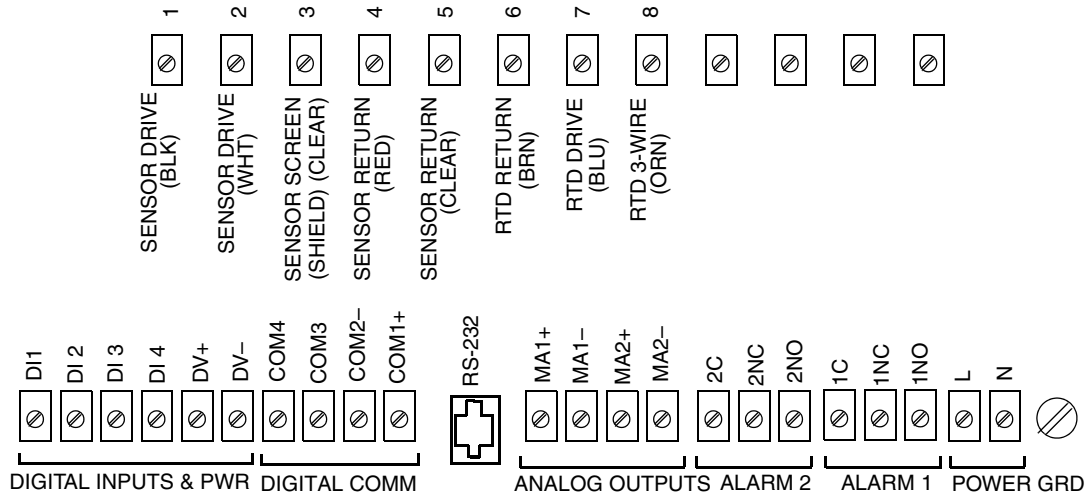

Figure 7. Wiring Connections for 875EC Analyzer
If you have a panel-mounted analyzer, make your wiring connections directly to the terminals on the rear of the housing. Terminal identification is shown in Figure 7 and described in Table 4.
3. Bring the wires from your input (ac) power in the right opening and connect to terminals at the right end of the bottom terminal strip as shown in Figure 7 and described in Table 4.
4. Bring all other wiring (except sensor cable) in the middle opening and connect to appropriate terminals on the bottom terminal strip as shown in Figure 7 and described in Table 4.
5. Bring the sensor cable in the left opening and connect to the appropriate terminals on the top terminal strip as shown in Figure 7 and described in Table 4. If you are using manual temperature compensation and are **not** wiring a temperature measuring device, short terminals 6, 7, and 8 to minimize noise.
The ground connection on panel mounted analyzers is located as shown in Figure 7. The connection on field mounted analyzers is on a case boss just below the power connections.
If HART Communication (Option -C) is installed, connect your HART loop to the COM1(+) and COM2(-) terminals of the analyzer. See Figure 7. Therefore, if you are configuring the analyzer on the bench (no loop load) with a HART communicator, you must add a 250 Ω resistor.
There are two analog (4 to 20 mA) outputs in the analyzer. Connect the Analog 1 output at the MA1+ and MA1- terminals of the analyzer. Connect the Analog 2 output at the MA2+ and MA2- terminals of the analyzer. See Figure 7. Analog 2 is **not** used when HART I/O communication is employed.